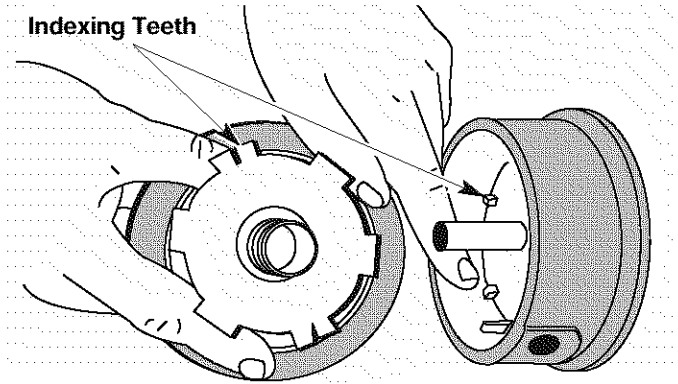

Fig. 18
5. Check the indexing teeth on the inner reel and outer spool for wear (Fig. 18). If necessary, remove burrs or replace the reel and spool.
NOTE: Membrane line can only be used with the inner reel with the slotted holes. Single line can be used on either type of inner reel. Use Figure 18 to identify the inner reel you have.